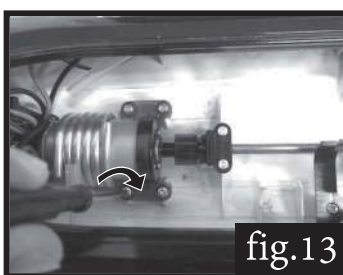

fig.13
13. Put the motor seat back in position, check if propeller runs smooth, then secure it with screws, fig. 13.